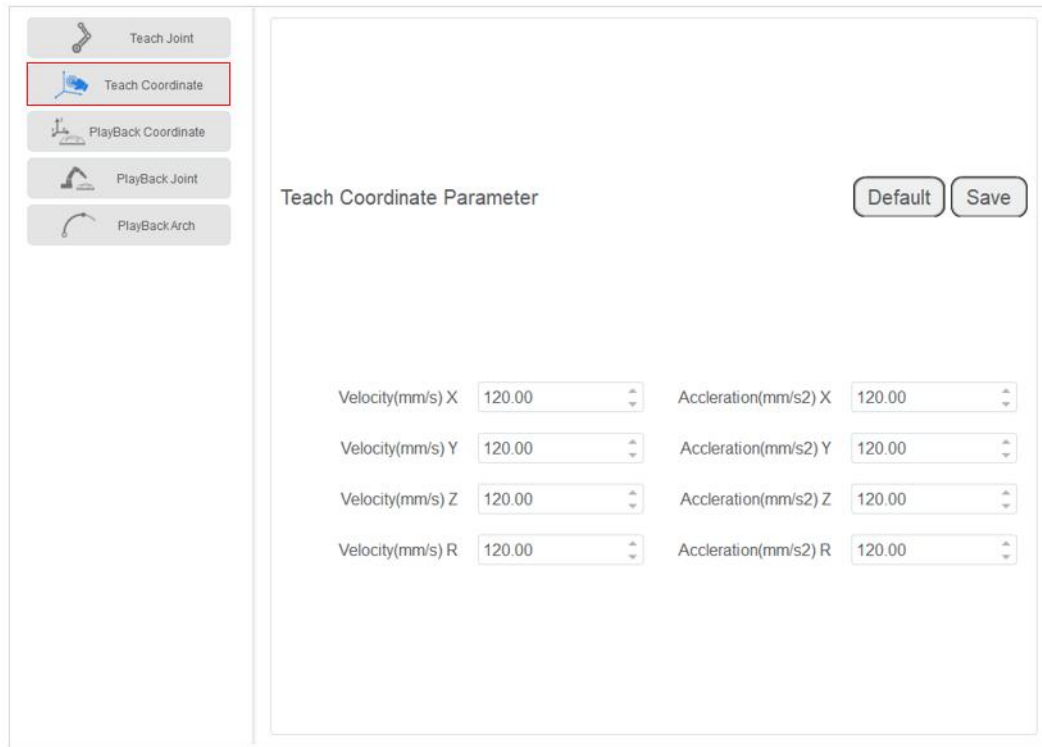

Figure 3.39 Jogging parameters in the Cartesian coordinate system
- Teach Coordinate Parameter: Set the maximum velocity and acceleration in the Cartesian coordinate system when jogging a robot. The jogging parameters of a robot in the Cartesian coordinate system are as shown in Figure 3.39.